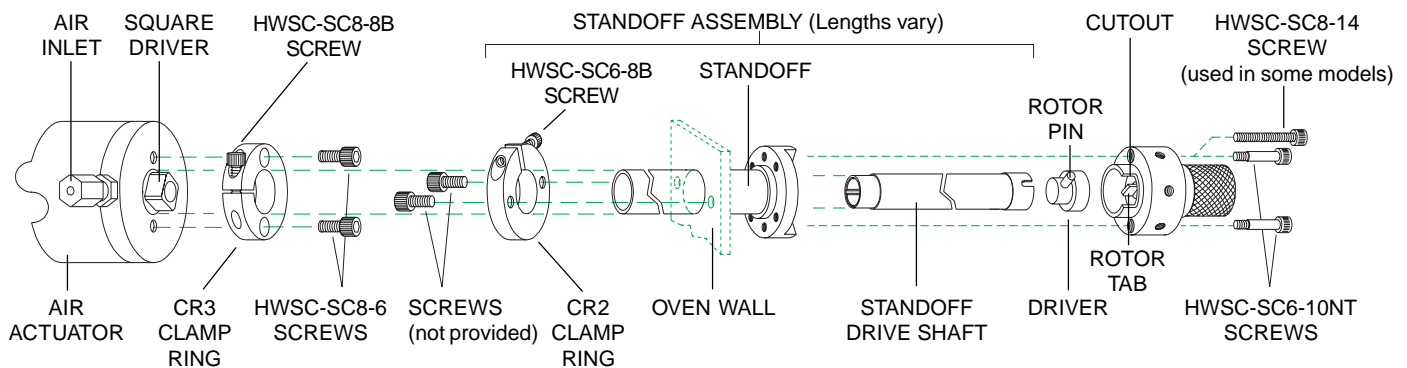

Figure 2: W Type valve with standoff assembly and air actuator
1. Remove the valve/standoff assembly from the actuator by loosening the HWSC-SC8-8B screw in the CR3 clamp ring. (**Figure 2** or **3**).
The valve can be removed from the standoff assembly without affecting alignment by removing the screws shown at the extreme right of **Figures 2** and **3**. The alignment is not changed so long as the HWSC-SC8-8B screw in the CR3 clamp ring is not loosened. However, any time the clamp ring screw is loosened, the alignment must be checked.
1. If an actuator has been specified for use with a standoff, it will come from the factory with the CR3 clamp ring already mounted. The clamp ring should not be removed from the actuator: however, if for some reason it has been, reattach it with the screws called out in **Figures 2 and 3**.
3. Turn the valve to the counterclockwise position, shown by the position of the rotor tab in **Figures 2 and 3**. The valve and actuator are now both in the LOAD position.